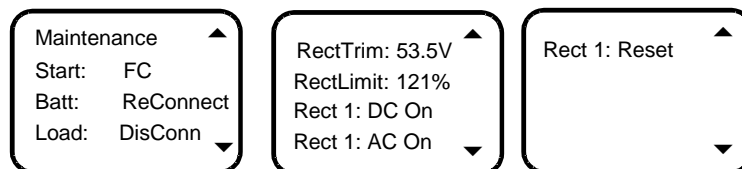

Figure 4-18 Maintenance page
3. Input the password and press ENT to enter the Maintenance page, as shown in Figure 4-18.
- 2) Use ▲ or ▼ to move the cursor to the maintenance operation area (that is DC On in Figure 4-18), and ◀ or ▶ to select the value.